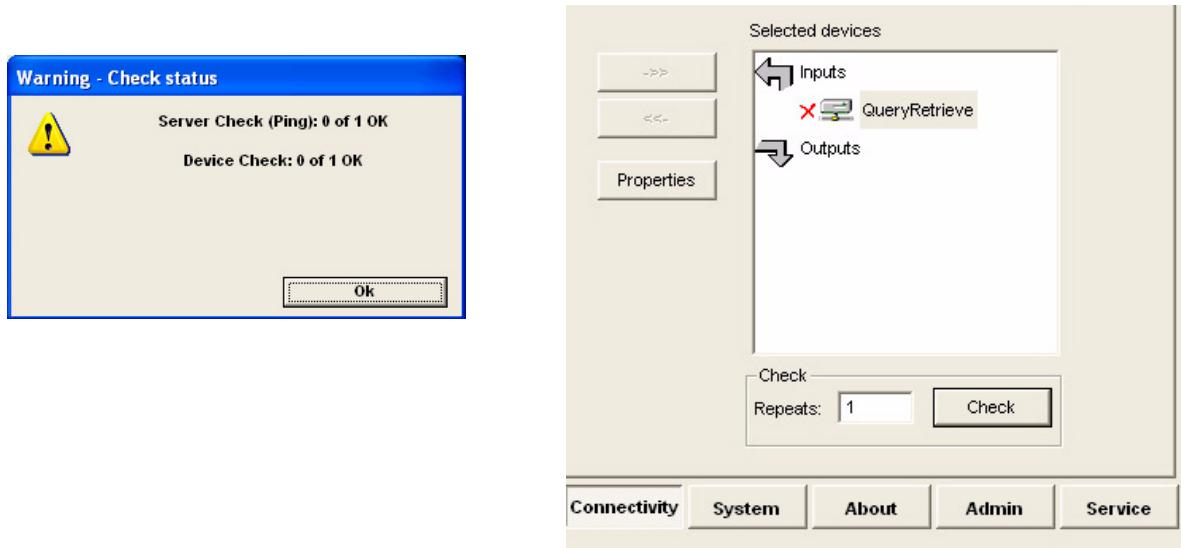

Figure 3-90 Test (Check) Failed
- If the test fails, a pop-up warning is displayed, see left illustration in Figure 3-90.